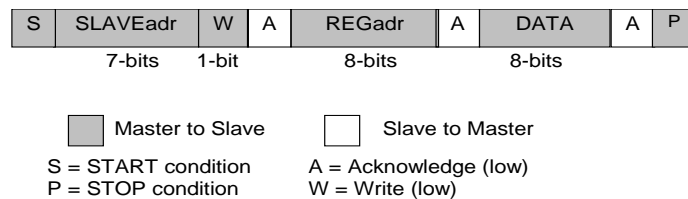
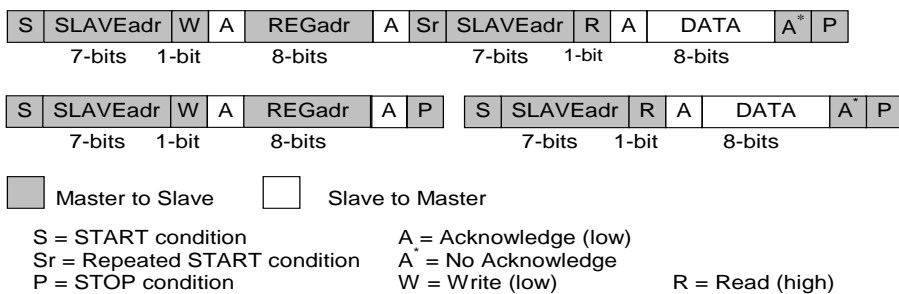

Figure 22: I2C Byte Write (SDA Line)
Figure 23: I2C Byte Read (SDA Line) Examples
The I2C bus is monitored for a valid slave address whenever the interface is enabled. It responds immediately when it receives its own slave address. The acknowledge is done by pulling the SDA line low during the following clock cycle (white blocks marked with A in Figure 22 and Figure 23).
The protocol for a register write from master to slave consists of a START condition, a slave address with read/write bit, and the eight-bit register address followed by eight bits of data, terminated by a STOP condition. DA9220 responds to all bytes with acknowledge (A), see Figure 22.
When the host reads data from a register it first has to write to DA9220 with the target register address and then read from DA9220 with a repeated START, or alternatively a second START, condition. After receiving the data, the host sends no acknowledge (A\*) and terminates the transmission with a STOP condition, see Figure 23.